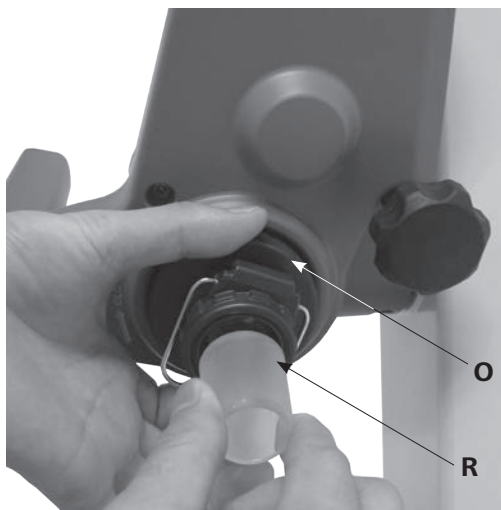

Fig.14b
- Then, lock the locking device (**O**) by turning it clockwise by 60°. (Fig. 14b)